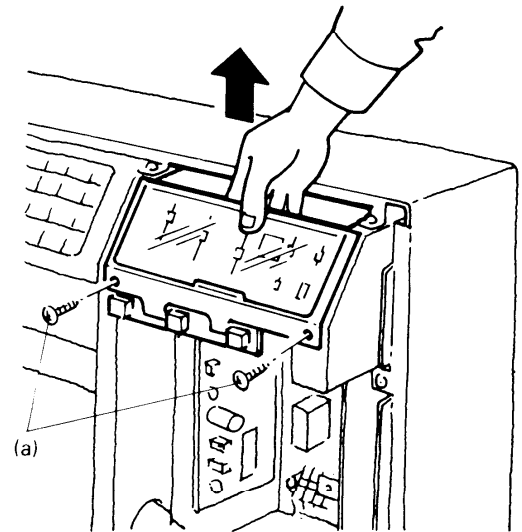

Fig. 3
- ② Remove the two controller installation screws (a), and raise the controller to remove it. Fig. 3